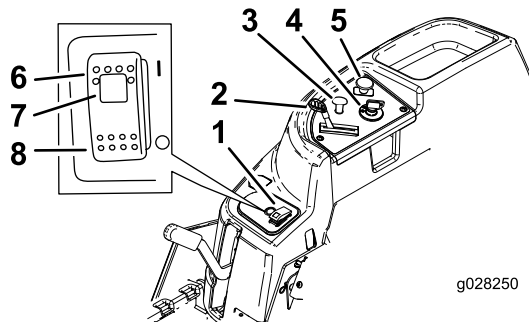
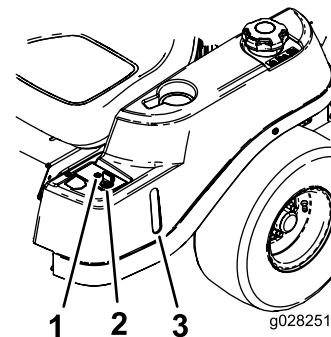

Figure 5
Figure 6
Become familiar with all controls in Figure 5 and Figure 6 before you start the engine and operate the machine.
The ignition switch has 3 positions—OFF, RUN and START. The key turns to the START position and moves back to the RUN position upon release. Turning the key to the OFF position stops the engine. Always remove the key when leaving the machine to prevent someone from accidentally starting the engine (Figure 5).
Use the choke to start a cold engine. Pull the choke knob up to engage it. Push down the choke knob to disengage it (Figure 5).
The throttle control is variable between the FAST and SLOW positions. Moving throttle lever forward increases the engine speed and moving it rearward decreases the engine speed (Figure 5).
The blade-control switch (PTO) engages and disengages power to the mower blades (Figure 5).
Use the fuel window, located on the left side of the machine, to verify the presence of gasoline in the tank (Figure 6).
This switch allows you to mow in reverse when it is activated. To activate it, turn the switch to the ON position and release it after the PTO is engaged. To deactivate it, disengage the PTO (Figure 6).
- Press the SmartPark™ switch to the ON position (Figure 5).